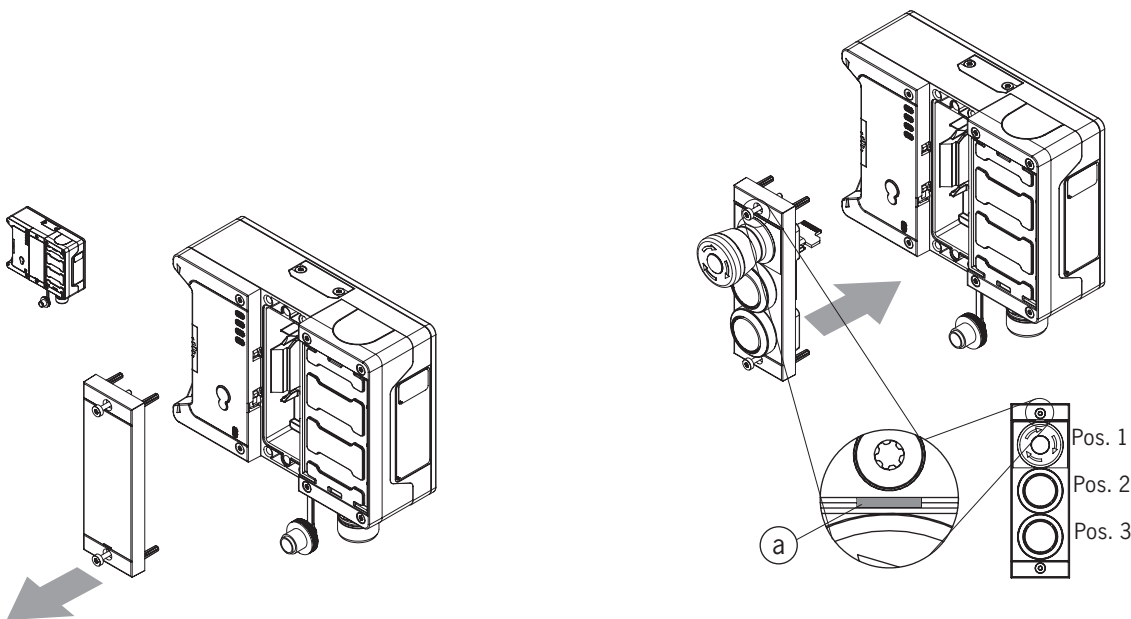

Figure 10: Mounting submodule
- Pay attention to the alignment of the submodule. See marking (a) in *Figure 10: Mounting submodule*. Submodules can also be installed rotated by 180°. The marking (a) always indicates the first position to be equipped. In the example, the emergency stop S1 is underneath.